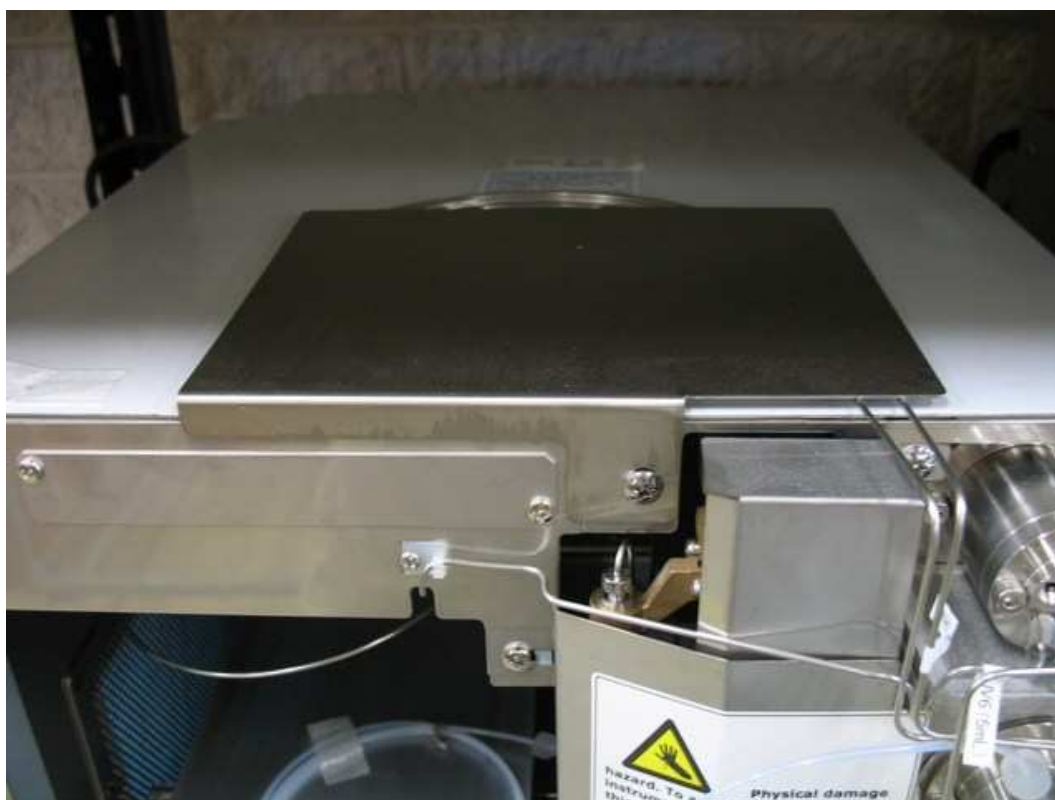

Figure 12: Metal Cover Plate
6. Fit metal cover plate over coil as shown in *Fig. 12*.